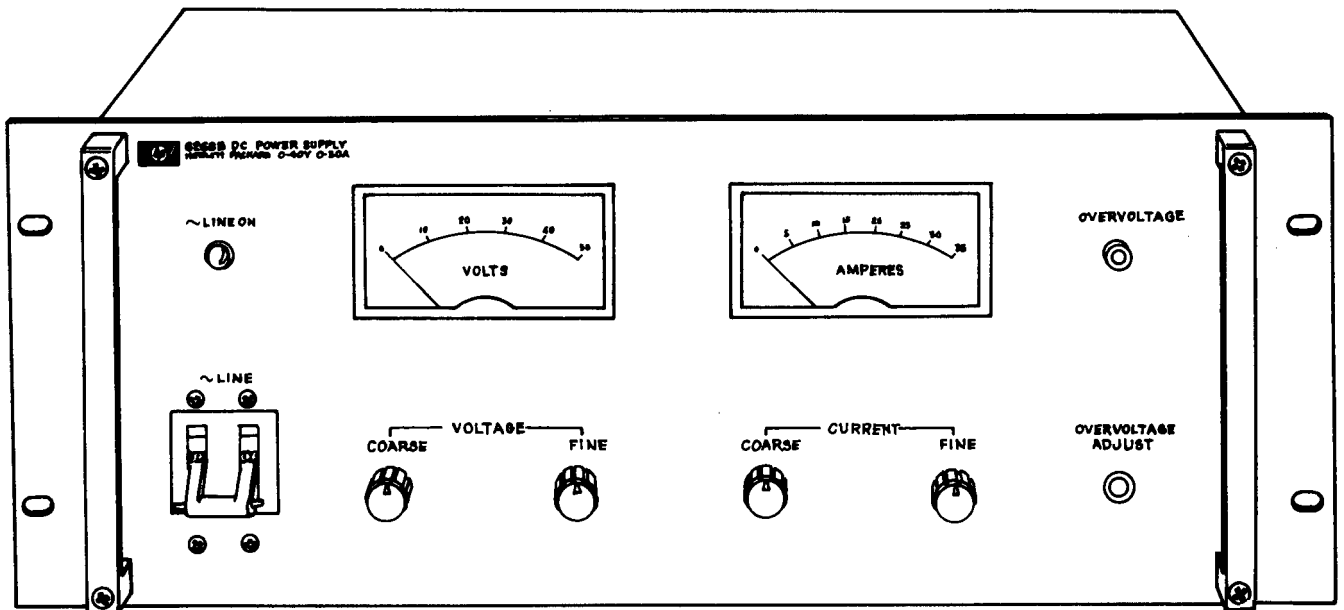

Figure 1-1. DC Power Supply (0-40 VDC/0-30A) PP-7833/U, Model HP6268B
1-A.2 This manual describes the organizational, direct support (DS) and general support (GS) maintenance of the DC Power Supply (0-40VDC/0-30A) PP-7833/U, Model HP6268B (fig. 1-1) hereafter referred to as the DC power supply or instrument. This manual contains instructions for operating and maintaining the five models of the power supply. If a procedure for one or more models differs from the general procedure, alternate steps are included to accommodate the differing units. Although the Model 6268B is emphasized, it is incumbent on the reader to select only those procedures related to the particular model with which he is concerned. A complete listing of reference publications is provided in Appendix A. The Maintenance Allocation Chart is in Appendix B. The Repair Parts and Special Tools List (RPSTL) is contained in TM 11-6130-417-24P.